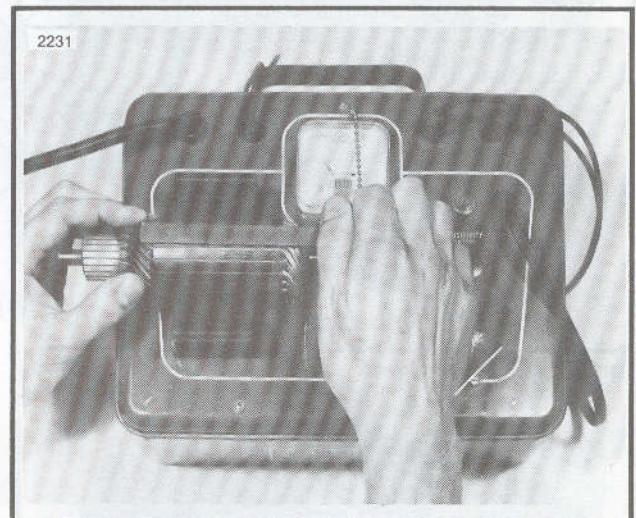

Figure 5-16. Shorted Armature Test Using Growler
10. See Figure 5-16. Check for SHORTED ARMATURE with a growler. Place armature on growler. Hold a thin steel strip (hacksaw blade) against armature core and slowly turn armature. A shorted armature will cause the steel strip to vibrate and be attracted to the core. Shorted armatures should be replaced.